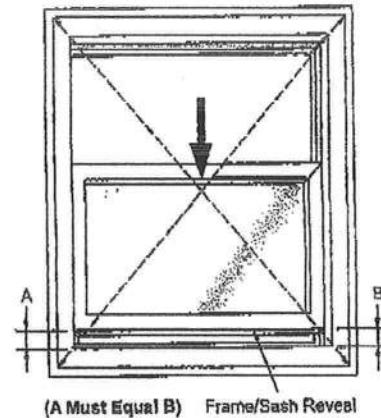

Figure 5
9. Take diagonal measurements to assure the unit is square. Opening the bottom sash approximately 1/4" will provide visual confirmation of proper setting if the reveal between frame and sash are equal the entire width. (See Figure 5)